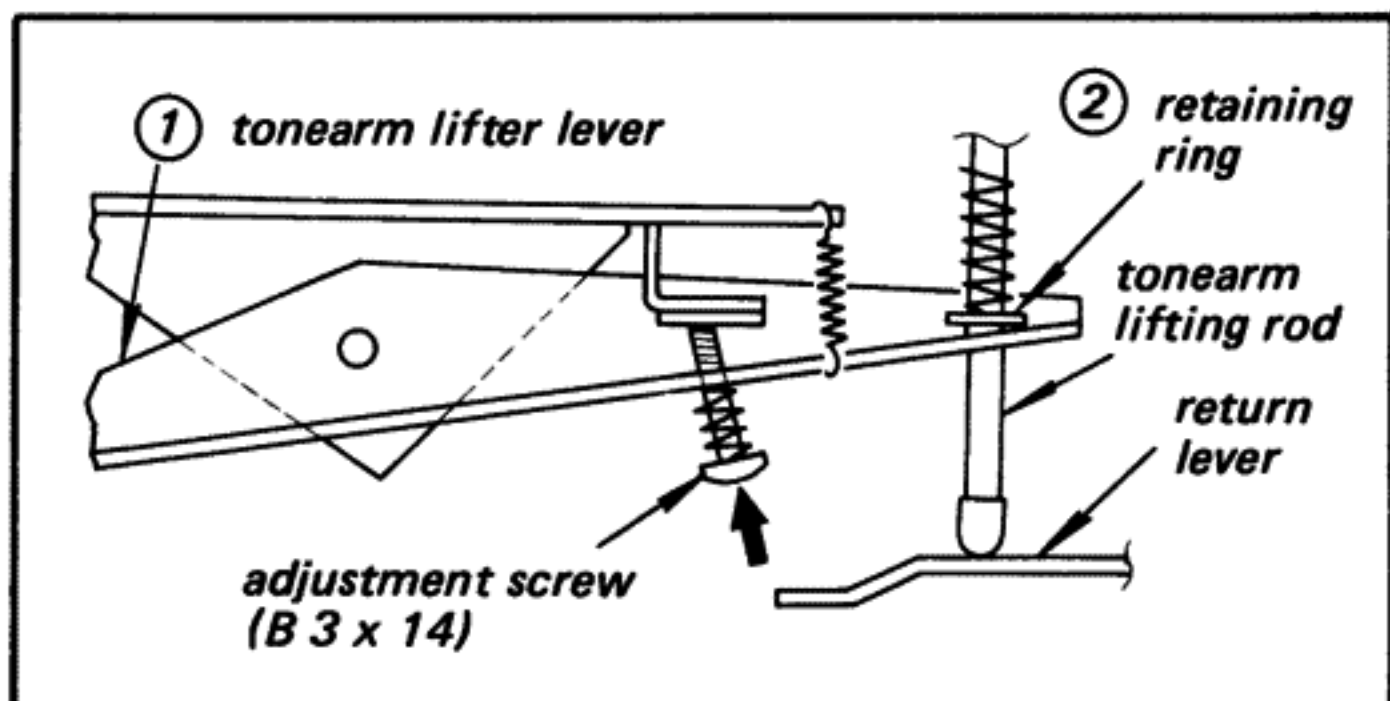

Fig. 3-3. Tonearm height adjustment in manual return operation
2. Turn the adjustment screw so that the edge of the tonearm lifter lever ① contacts the retaining ring ② on the tonearm lifting rod as shown in Fig. 3-3.